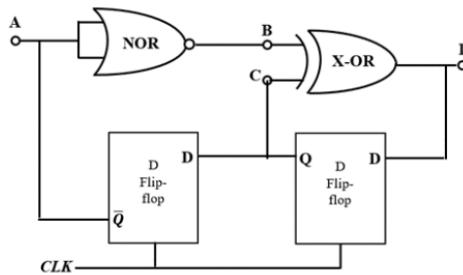

Fig. 5.10
10. Find the decimal equivalent of $ABCD$ in Fig. 5.10.